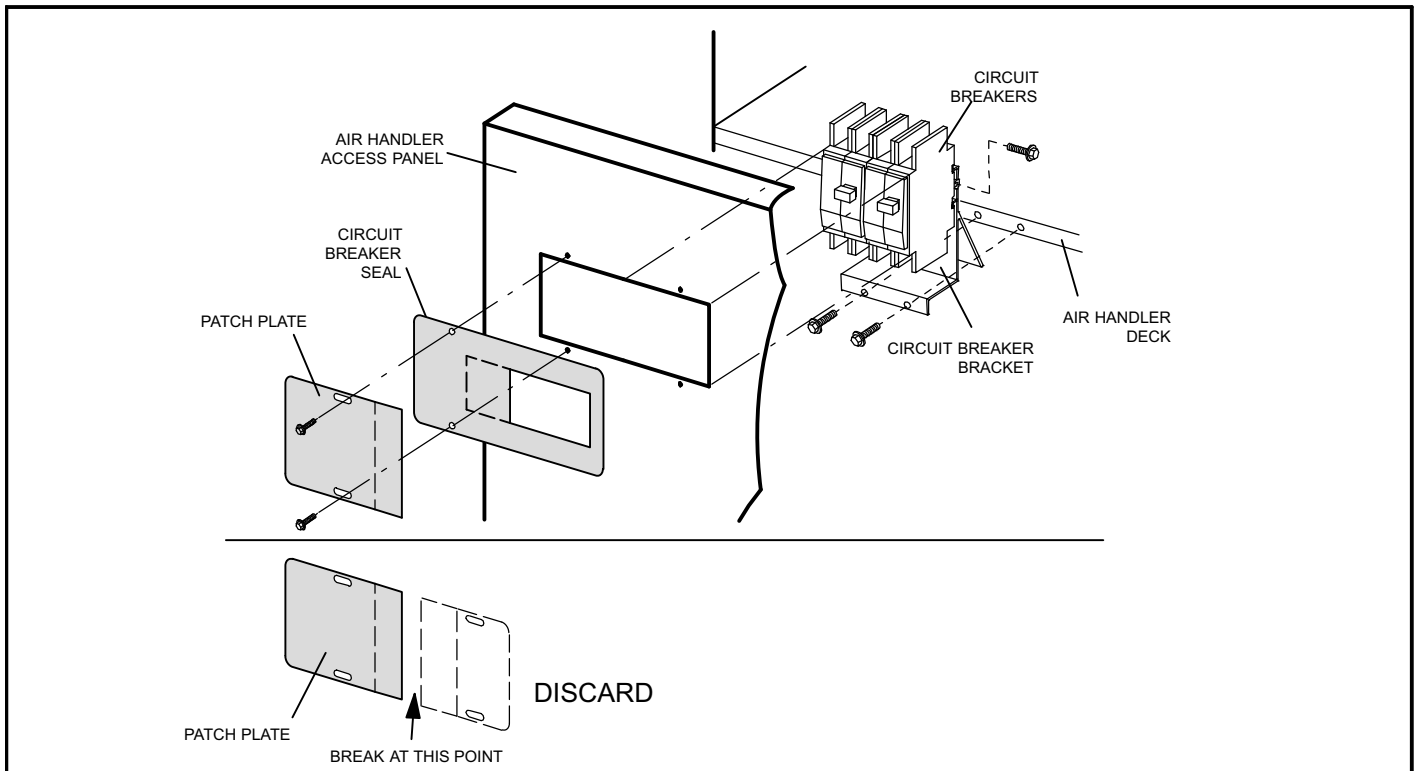

Figure 3. Circuit Breaker Seal and Patch Plate Installation
2. The air handler access panels are factory supplied. There is a patch plate over the circuit breaker opening. Remove the circuit breaker patch plate from the air handler access panel. See figure 3.